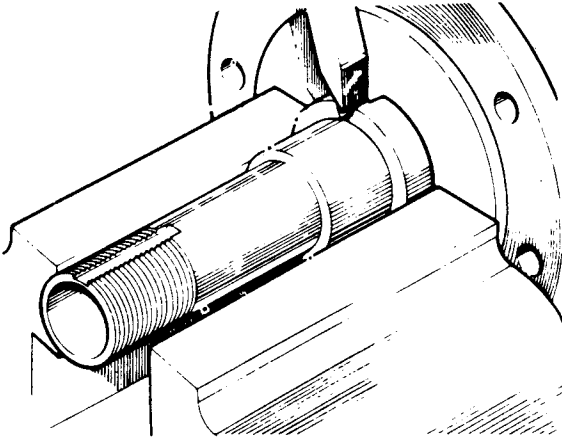

Fig J1.48
- (2) Refer to Fig J1.48. Check the outside of the inner bearing distance piece. This must not show any signs of damage or roughness as it forms the inner seat for the oil seal. The distance piece should be a press fit on the stub axle. Any clearance between these two parts will allow oil to leak past on to the brake linings.
- (3) If it is required to remove the inner bearing distance piece from the stub axle, it must be shattered, using extreme care to avoid damaging the axle.
- (4) Press on the replacement distance piece.